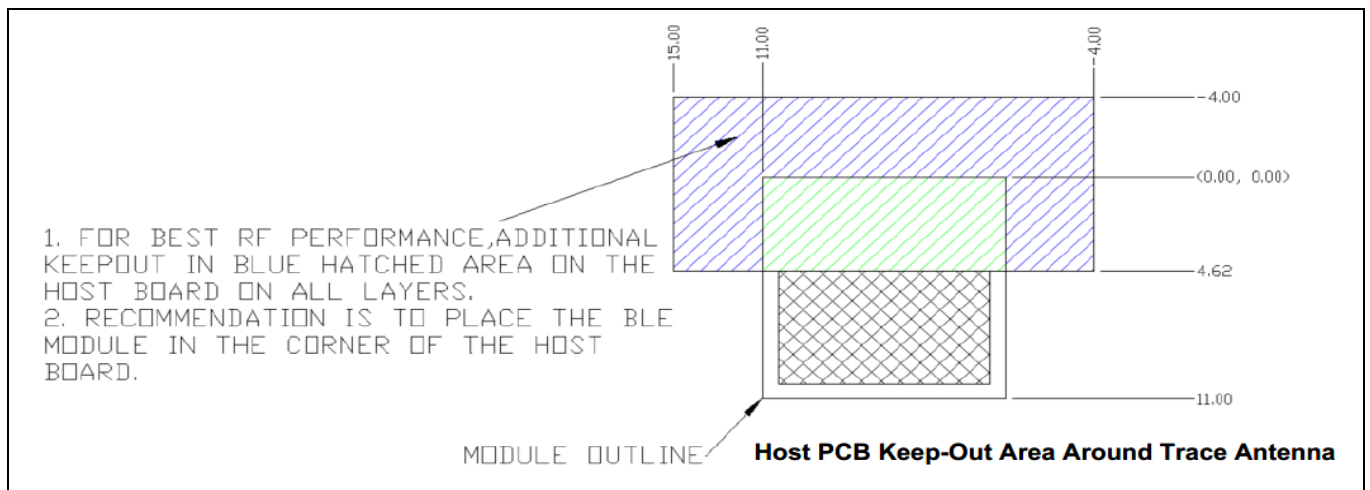
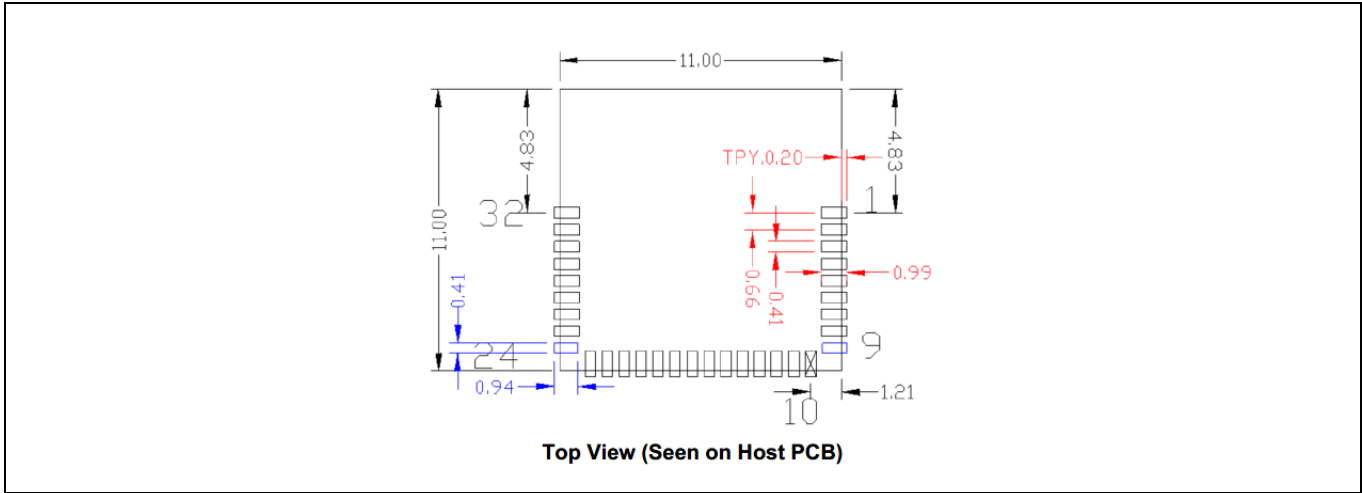
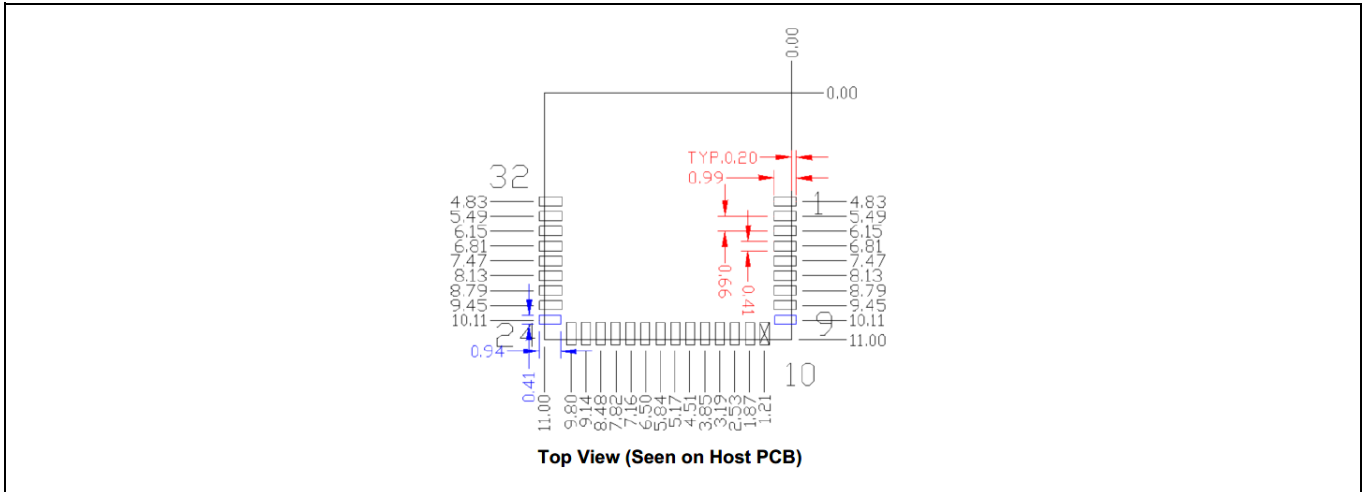
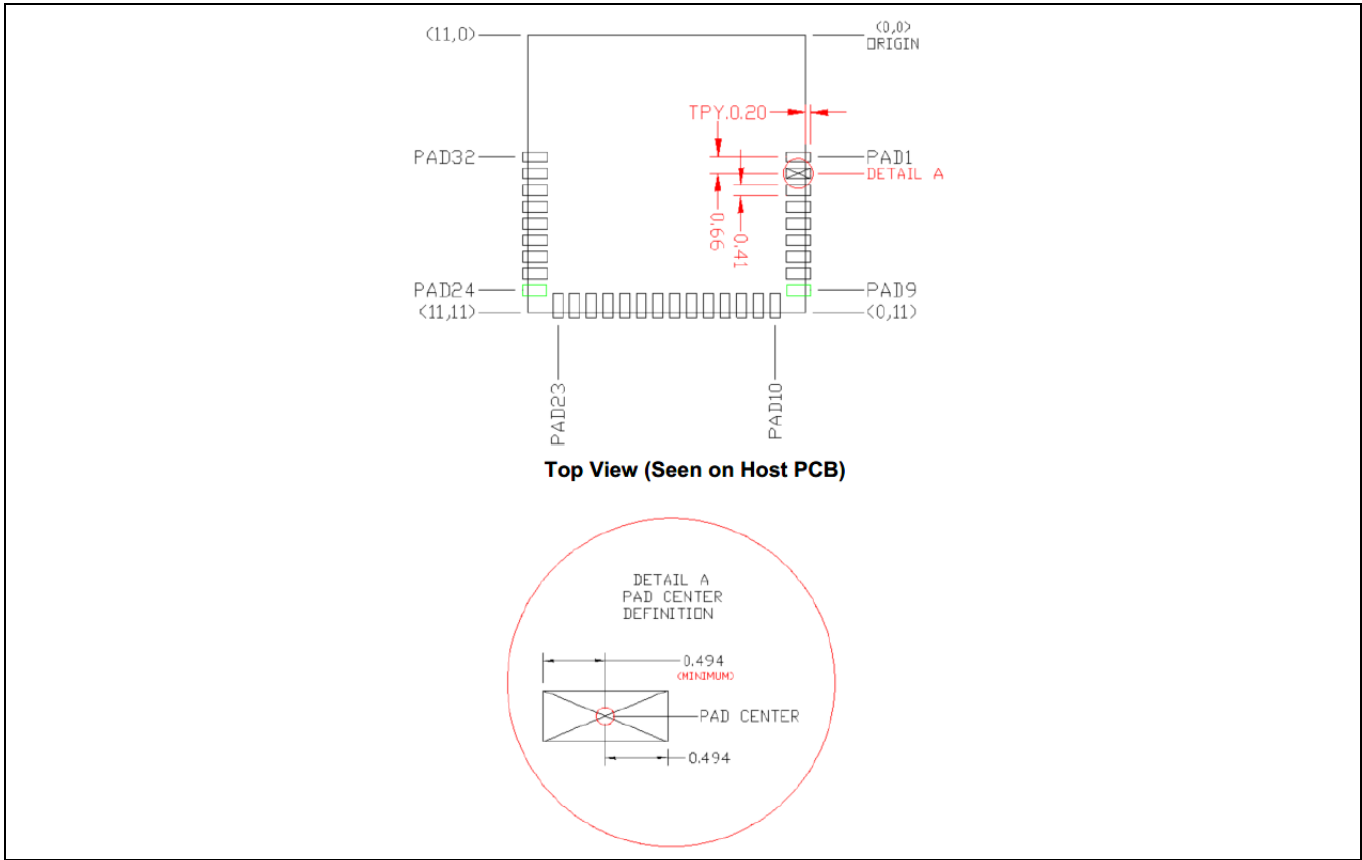

Figure 3 Recommended host PCB keep-out area around the CYBLE-214015-01 trace antenna
Figure 4 Host layout pattern for CYBLE-214015-01
Figure 5 Module pad location from origin
Figure 6 Solder pad reference location
1. No metal should be located beneath or above the antenna area. Only bare PCB material should be located beneath the antenna area. For more information on recommended host PCB layout, see Figure 3, Figure 4, Figure 5, Figure 6, and Table 3.
1. The ideal placement of the AIROC™ Bluetooth® LE module is in a corner of the host board with the antenna located on the edge of the host board. This placement minimizes the additional recommended keep-out area stated in item 2. Refer to AN96841 for module placement best practices.
2. To maximize RF performance, the area immediately around the AIROC™ Bluetooth® LE module trace antenna should contain an additional keep-out area, where no grounding or signal traces are contained. The keep-out area applies to all layers of the host board. The recommended dimensions of the host PCB keep-out area are shown in Figure 3 (dimensions are in mm).
Figure 4 through **Figure 6** and **Table 3** provide details that can be used for the recommended host PCB layout pattern for the CYBLE-214015-01. Dimensions are in millimeters unless otherwise noted. Pad length of 0.99 mm (0.494 mm from center of the pad on either side) shown in **Figure 6** is the minimum recommended host pad length. The host PCB layout pattern can be completed using either **Figure 4**, **Figure 5**, or **Figure 6**. It is not necessary to use all figures to complete the host PCB layout pattern.
Table 3 provides the center location for each solder pad on the CYBLE-214015-01. All dimensions are referenced to the center of the solder pad. Refer to **Figure 6** for the location of each module solder pad.